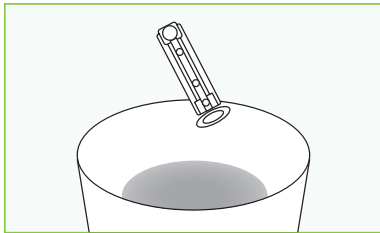

Figure 94
**2** Pull out the lancet from the lancet holder and dispose of the lancet in a sharps container. (Figure 94)